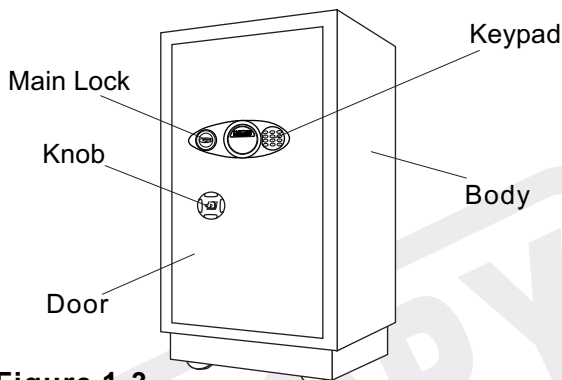

Figure 1-3
3. Turn the main key clockwise ➡ (and turn the knob of model JJB-231, JJB-241, JJB-251 private container (See Figure 1-3) clockwise ➡) to open the container door.
6. Turn the main key counterclockwise ⬅ to extend out the locking bolts to lock the container door. For model JJB231, JJB-241, JJB-251 private container, first turn the knob (See Figure 1-3) counterclockwise ⬅ to extend out the locking bolts and then turn the main key counterclockwise to lock the container.
Please operate the container with your new user code according to the above steps 1~3 and 6 to confirm that your new user code can open the container door. Close the container door, turn the main key counterclockwise ⬅ (for model JJB-231, JJB-241, JJB-251 private container, turn the knob (See Figure 1-3) counterclockwise ⬅ first) and pull out the main key. Now your user code has been changed successfully.
For model JJB-231, JJB-241, JJB-251 private container, further turn the knob (See Figure 1-3) clockwise ➡ to open the door.